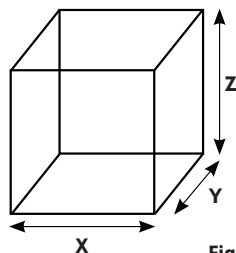

Figure 3.1
To calculate it yourself, multiply the height (Z) by the width (X) and the length (Y) in feet to get the cubic volume of your sauna room like shown **Figure 3.1**.